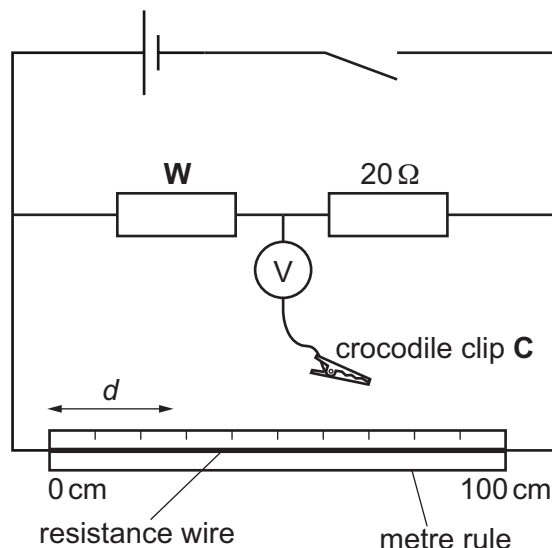

Fig. 4.1
- assembles the circuit shown in Fig. 4.1